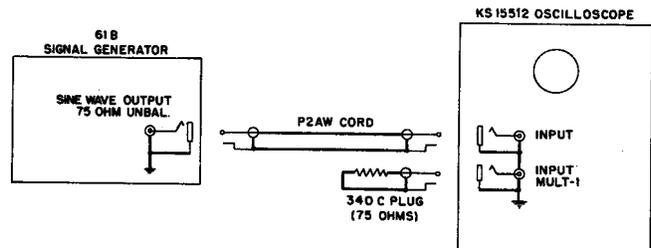

Fig. 2 - Equipment Arrangement for Maximum Gain Measurement
- (1) Prepare the oscilloscope as described in Paragraph 1.06.
- (2) Set the KS-15512, List 1 oscilloscope INPUT switch to NORMAL, V GAIN control to maximum, SYNC SELECTOR switch to (-), SWEEP FREQUENCY switch to HI, BLANKING switch to ON and the H GAIN control for a convenient horizontal deflection.
- (3) Set the 61B signal generator to 75-OHM UNBAL SINE WAVE OUTPUT, -20 dbv output level and 60-cycle frequency.
- (4) Terminate the oscilloscope with a 340C plug (75 ohms) and connect the 61B signal generator to the oscilloscope with a P2AW (unbalanced) cord as illustrated in Fig. 2.
- (2) Set the oscilloscope as in Paragraph 2.03(2).
- (3) Set the 61B signal generator to 75-OHM UNBAL SINE WAVE OUTPUT, 0 dbv output level and 60-cycle frequency.
- (5) Set the oscilloscope V GAIN control for a vertical deflection of 40 divisions as observed on the oscilloscope screen.
- (6) Set the CAL VOLTS control for a reading of exactly 1 volt on the meter.
- (7) Set the INPUT switch to the CAL A position and note the resulting vertical deflection.